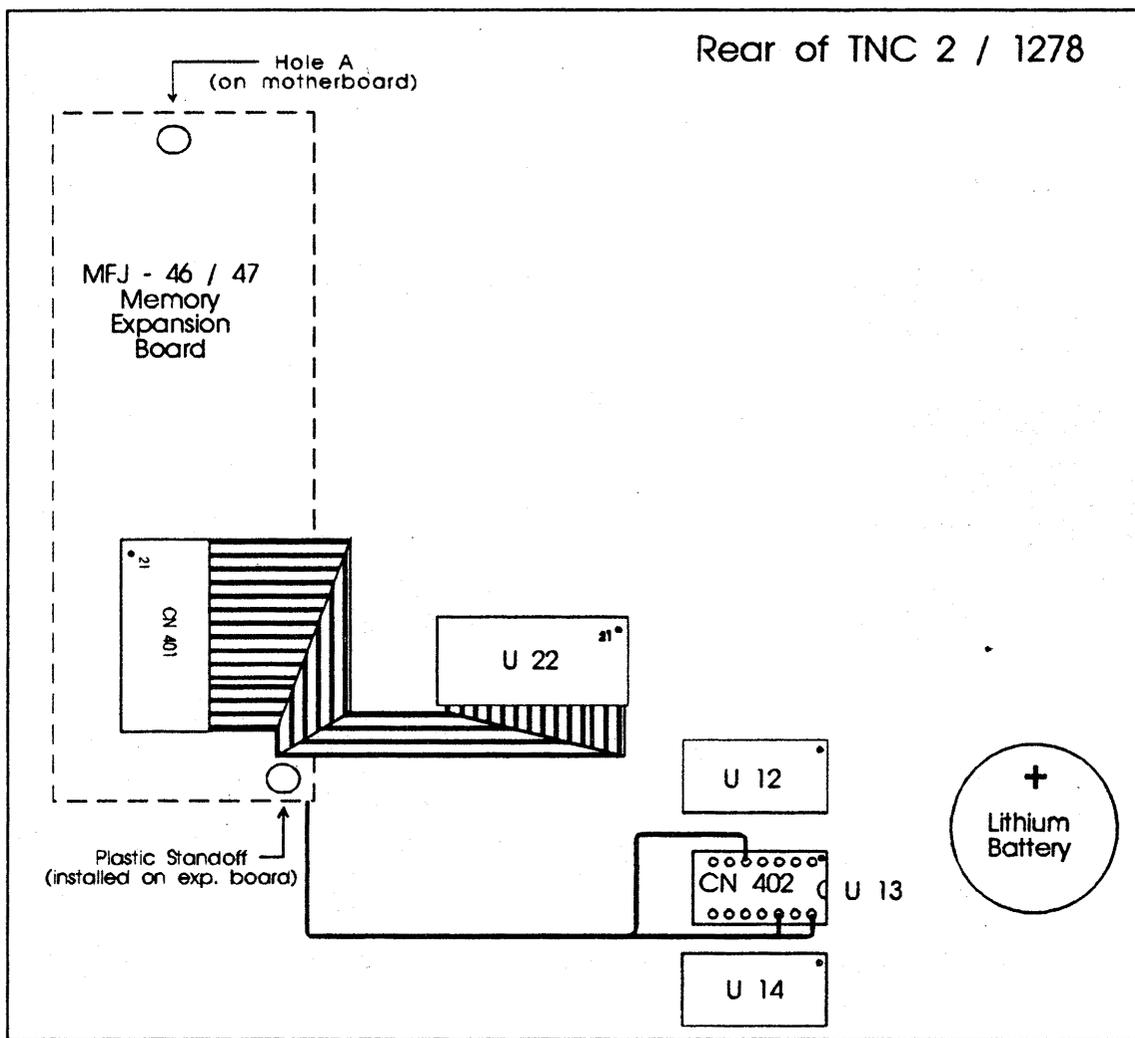

Figure 1
8. Please refer to Figure 1 when performing this step. Using a small phillips screwdriver remove the PC hold-down screw in the left rear corner of the TNC mother board, this is refered to as HOLE "A". Do not let this screw out of your sight, you'll be using it here shortly.
9. Take the 1/2" hex spacer supplied and install it in HOLE A, as noted in Figure 1 in this instruction. This is the same place where you removed the screw in Step #8, and tighten it down. This is an aluminum spacer DO NOT OVER TIGHTEN it, you will STRIP the THREADS.
10. Now with the memory board in one hand, plug the free end of the 40-pin ribbon cable into the IC socket labeled U22 (please refer to Figure 1; this is the same one which you removed the Z80 CPU from earlier in this procedure) on the mother board. Be sure to orient the blue connector so that pin 20 and 21 on the blue connector are oriented to the right side of the IC socket, (with the front panel of the TNC facing toward you). You will need to twist the cable slightly. Ensure that you leave the CN402 pigtail free and clear, do not let it become pinched or caught up underneath anything.
14. Take note of the location of the NOTCH on CN402. Now plug CN402 into the IC socket labeled U13 (socket which the 74HC4066 was removed earlier) on the TNC mother board. Please refer to either Figure 1. Plug it in so the NOTCH is pointing toward the lithium battery. Make sure it is firmly in place!